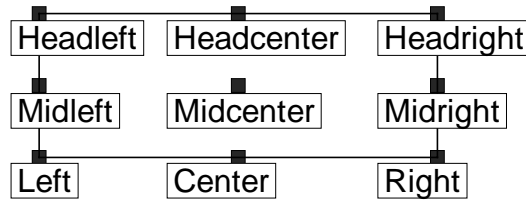

Figure 5-1. Text anchor positions—values for the **AN** parameter.
- Use the **AN** (*textanchor*) parameter to specify the position of the anchor point relative to the text. There are nine possible anchor positions, as shown in Figure 5-1.